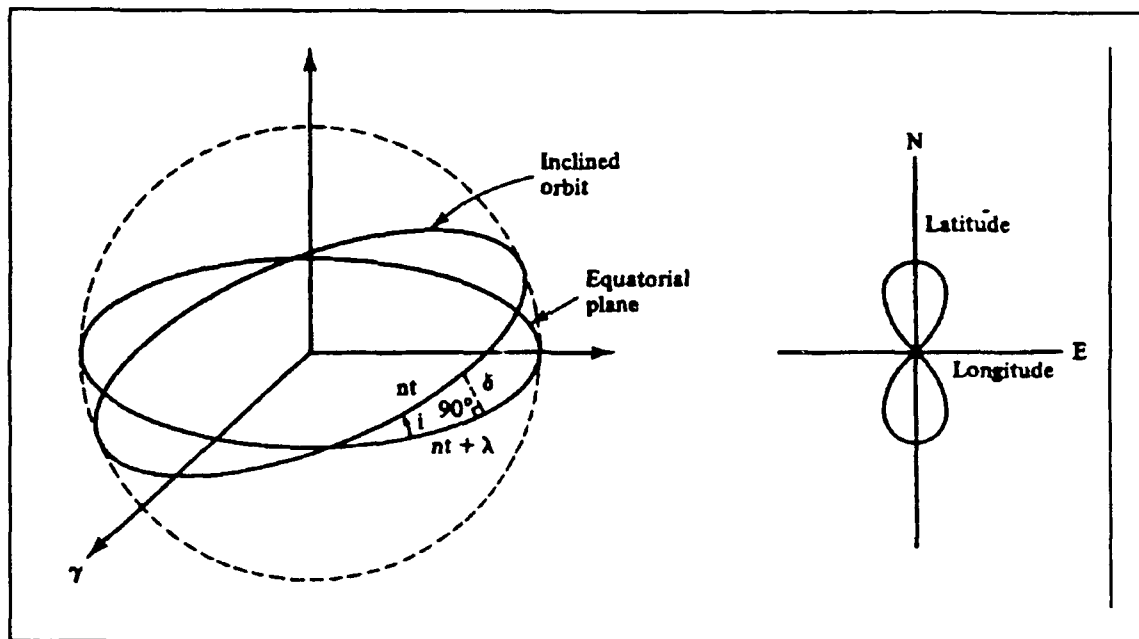

Figure 2.1 Geosynchronous Orbit ($i \neq 0$)
So for small inclinations, latitude oscillation is predominate. This can be easily seen in Figure 2.1. The effects of the sun and moon can be seen in Table 2.1. For an elliptic equatorial orbit with inclination ($i=0$) the amplitude is
An inclined geostationary orbit with correct radius will tend to oscillate mainly in latitude with respect to the surface of the earth. The amount of oscillation depends on the inclination and the drift rate. The motion or path of the drift resembles a figure eight (8). See figure 2.1. (Agrawal, p. 88, 1986)